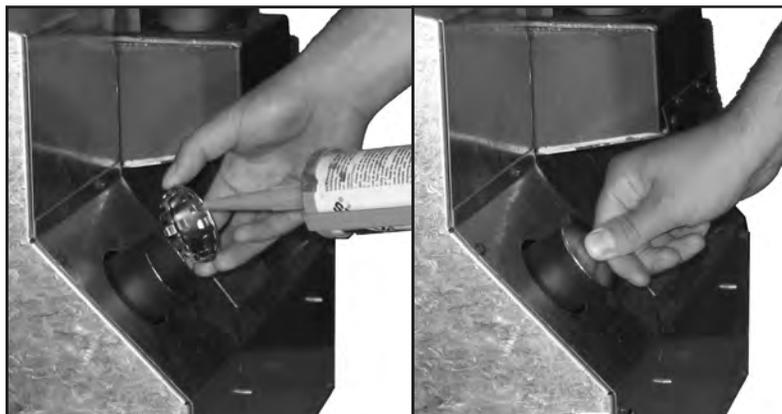

Figure 30: Install of Intake Air Plug.
- a) Place high temperature silicone on the outer surface of the ridges of the air intake plug (see Figure 30).